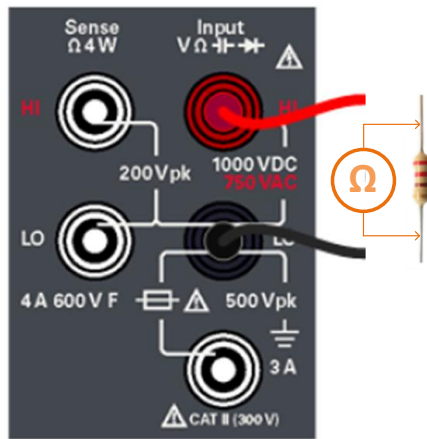

Figure 5.0a: DMM “Ohmmeter” Connection
2. Turn ON the DMM multimeter and set it as an **Ohmmeter** by pressing the “ Ω W” function key on the instrument. Then, as illustrated in **Figure 5.0a**, directly measure the actual resistance value of each $10\text{ k}\Omega$ resistor. Record yours results in **Table 3.0** in the appropriate column. Fill in the remaining columns later for Post-Lab work.
2. Turn ON the DMM multimeter and press the **Ω2W** function key to set it as an *Ohmmeter*. Refer to **Figure 5.0a** for proper cable connections to the multimeter.